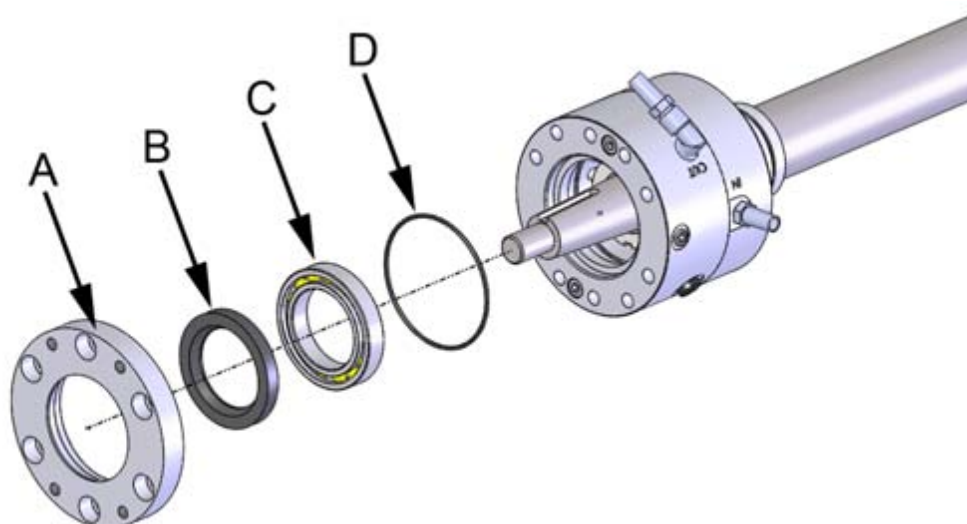

Figure 19. Assembly of the bearing housing seal cover
11. Push the shaft seal (figure 19, point B) together with the drive flange bearing (figure 19, point C) into the bearing housing cover (figure 19, point A).
12. Place the o-ring that seals the gap between the seal cover and the bearing housing cover (figure 19, point D) into the groove in the seal cover.